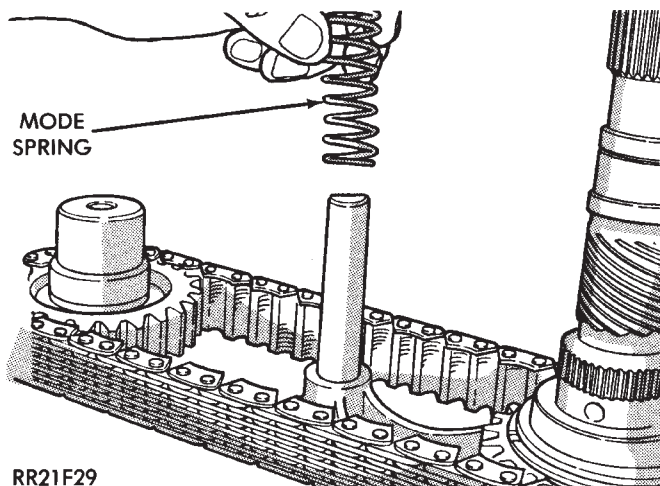

Fig. 9 Mode Spring Removal
(17) Remove mode spring (Fig. 9).